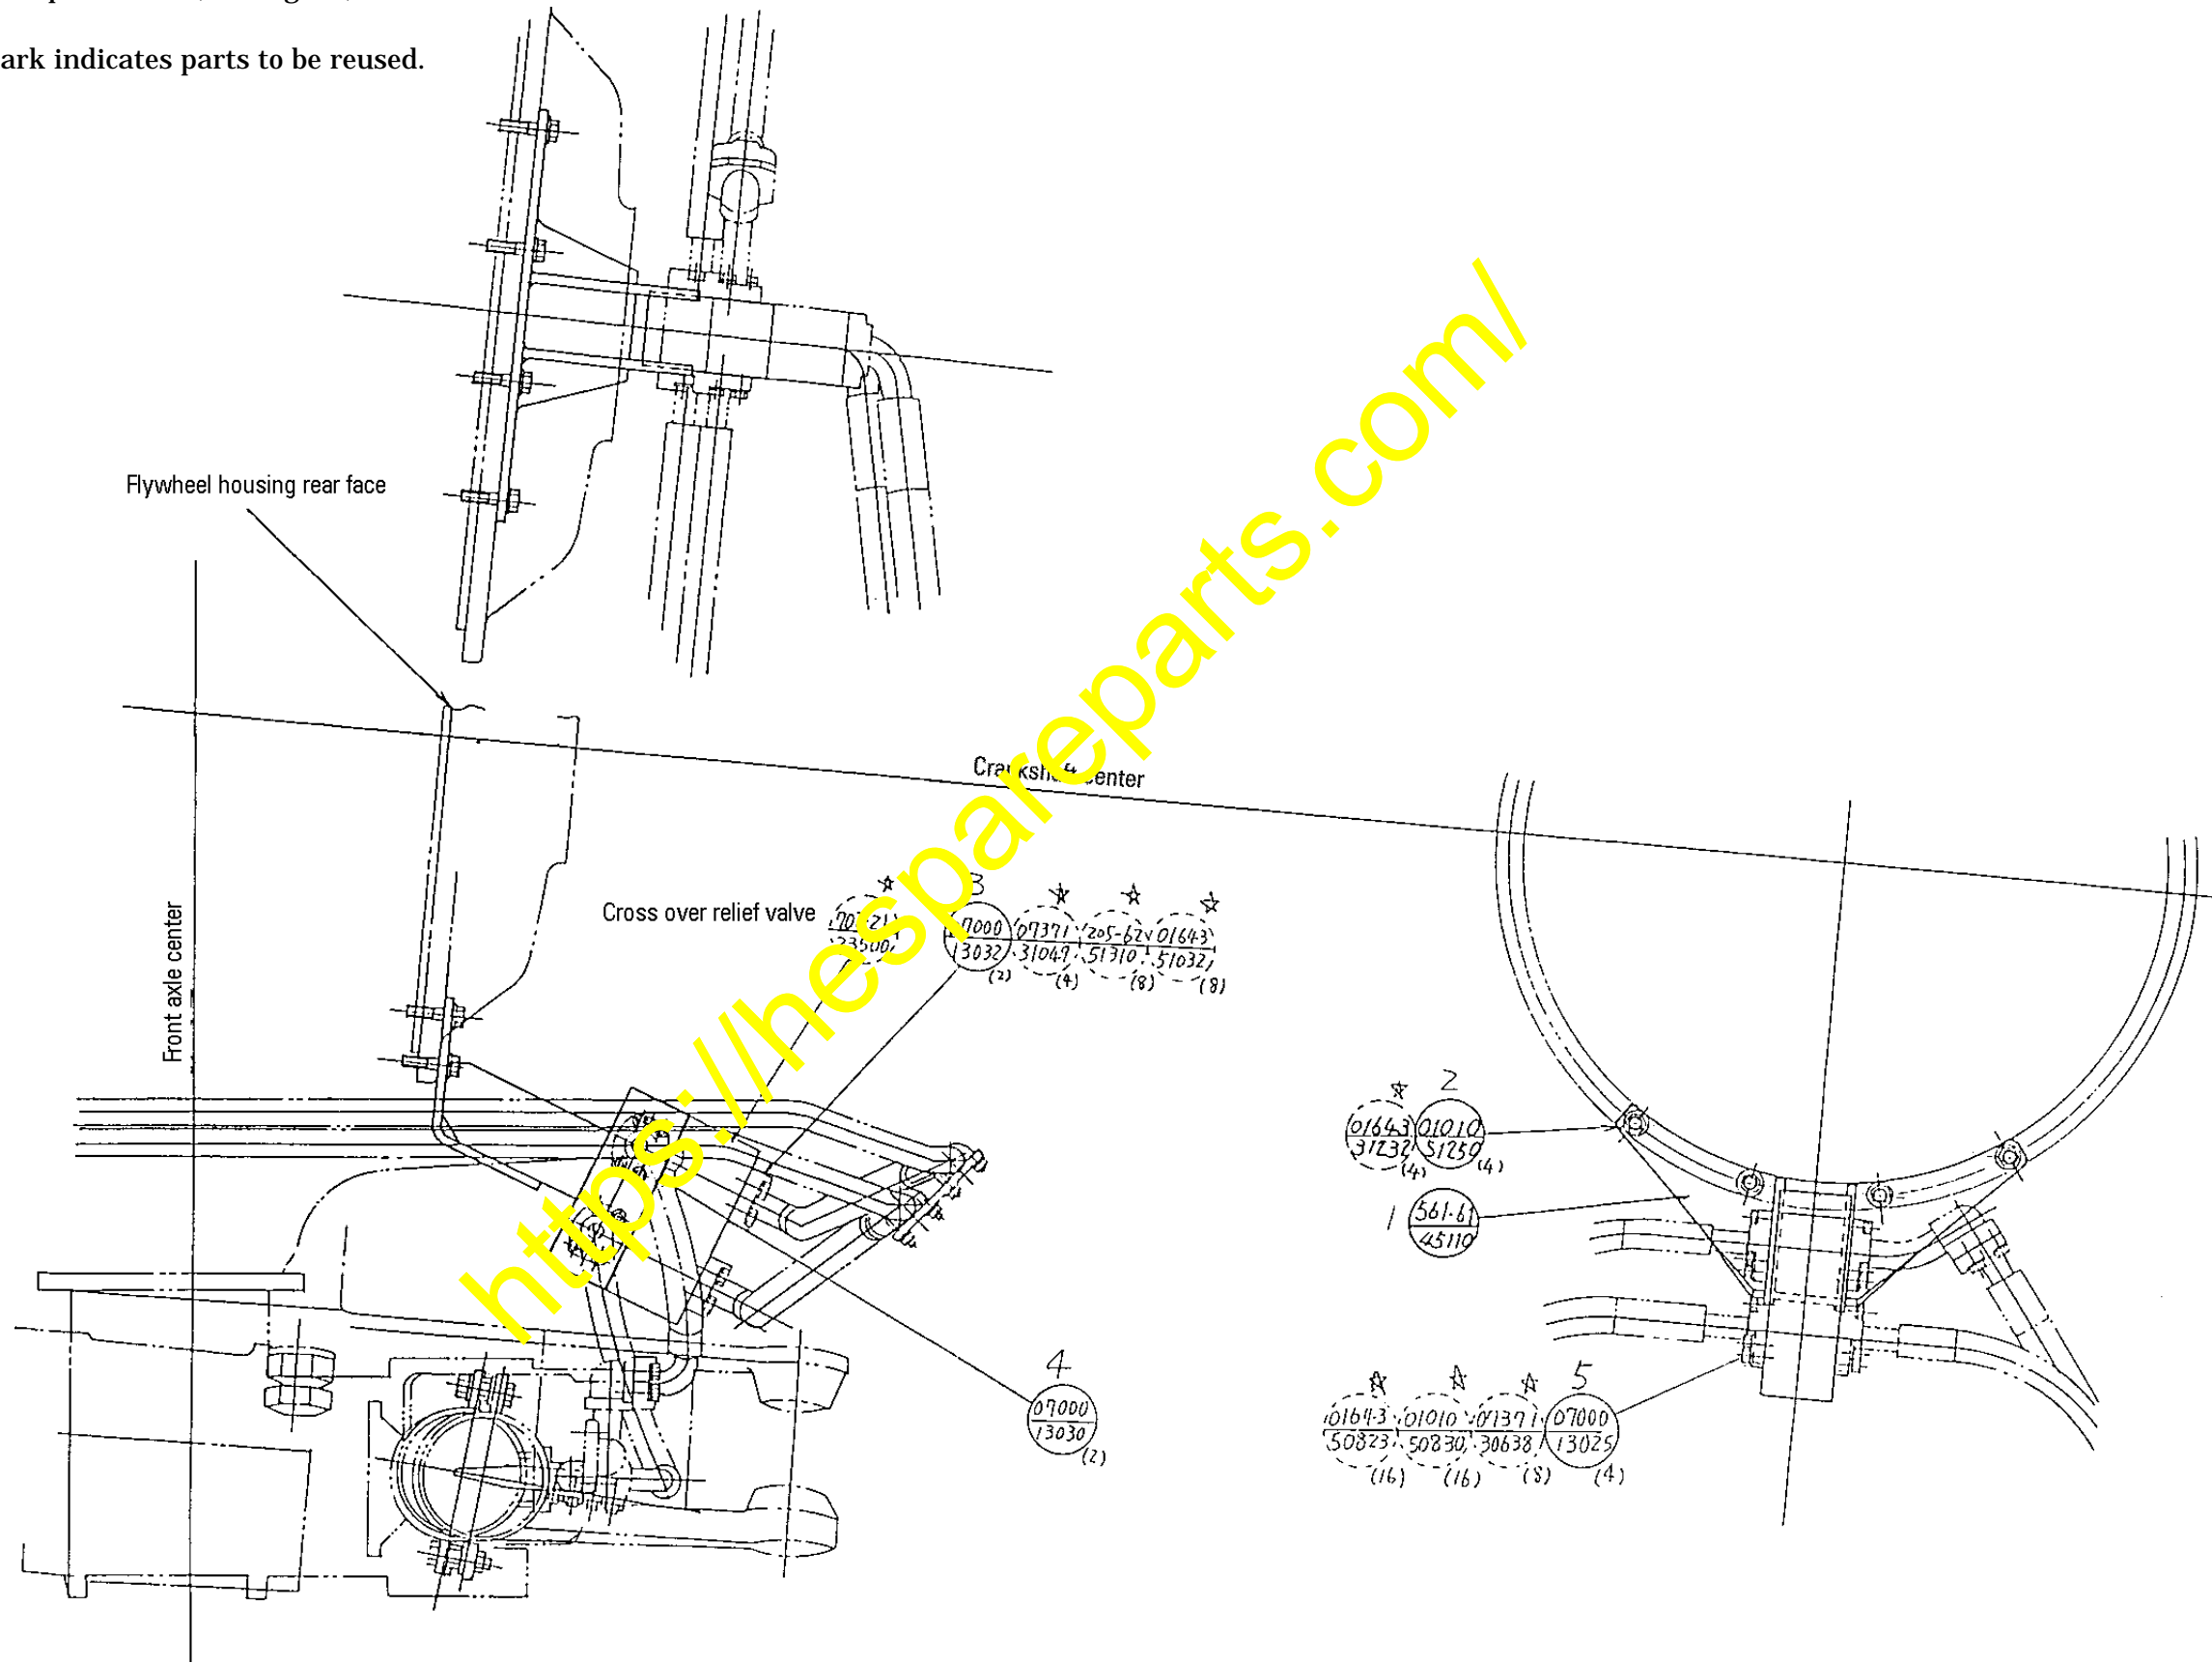

Fig. 29 Crossover Relief Valve Mounting Block Assembly Drawing
- (2) Fit the newly supplied BRACKET (561-61-45110)(1) with four newly supplied BOLTS (01010-51250)(2) which supersede the existing BOLTS (01010-51240) on the lower side of the output shaft. (See Fig. 29)